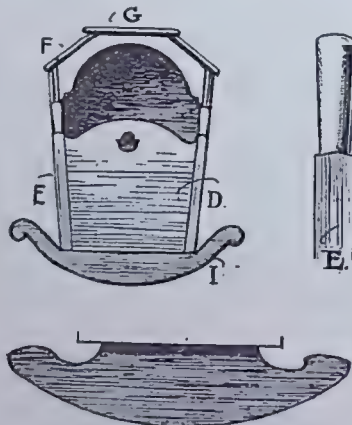

FIG. 3.—ELEVATION SHOWING CANOPY; ALSO ENLARGED DETAILS.
permanently fixing together the dado (Fig. 3) and the frieze (Fig. 2), fitting the intermediate muntins and panels, also the outside stiles, and cleaning the whole off as though it were finished. The stiles can then be removed and the loose parts taken out, thus leaving the remaining parts convenient for handling.
The head end (B) may be 27 ins. high, canted at top to receive the pieces F. The edges taper about 1½ in. at each side, and can be tenoned or dowelled to the posts (C). For the latter two 2 ft. lengths will serve. These are cut at top in line with the cant of the head end, grooved, and mortised (or holed) for sides to enter, and also cut at the lower end with a tenon to enter well home into the rocker. The foot end (D) may be shaped up as in Fig. 1, or alternately as Fig. 3 (with or without a fretted opening as sketched). The end posts (E) can be got out from pieces 1½ by 1½ by 1 ft. 9 ins. long, fitted as for the head end, but with the upper 4 ins. rounded away to form a convenient handle for steadying the cot.